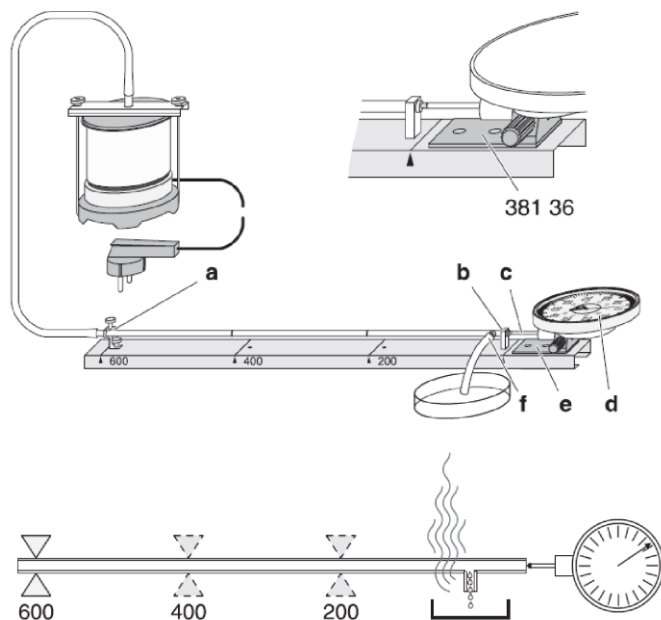

Fig. 1 Experiment setup for measuring the linear thermal expansion with the expansion apparatus
- Set up the experiment as shown in Fig. 1.